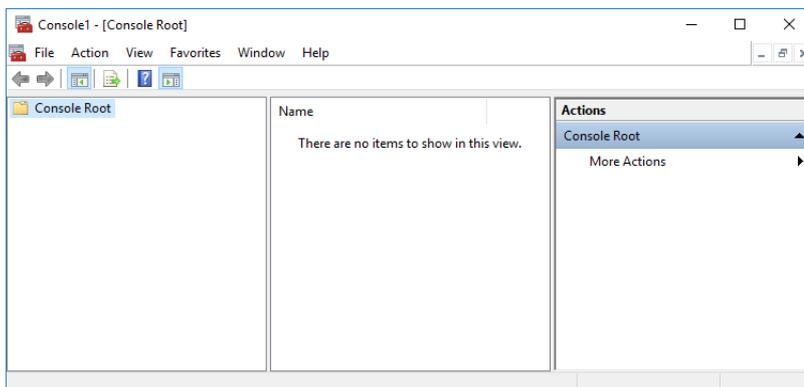

Figure 2-3. Console window
2. Type mmc into the search box and press <Enter>. After confirming the User Account Control message, the Console window opens, see Figure 2-3.